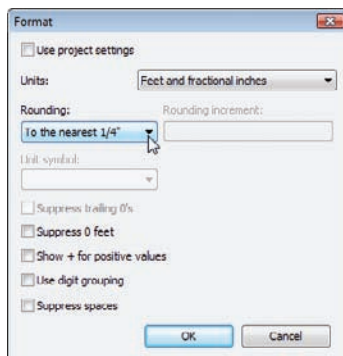

FIGURE 5.15 Changing the dimension's precision. Notice some of the other available choices.
7. Choose To the Nearest 1/4" from the Rounding drop-down menu (see Figure 5.15).